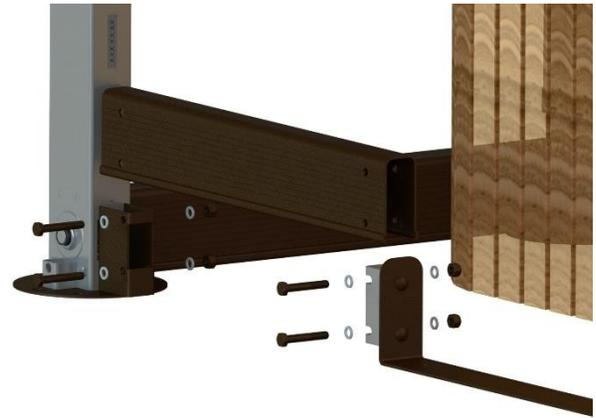

Figure 51
15) Fasten a short U-frame to each end of the front frame cut-out and then install the entire assembly between the front posts. Use four hexagonal 5/16"-18 x 2" bolts, four 5/16"-18 nylon-insert lock nuts and eight 5/16" plastic washers per side. Use 1/2" (13 mm) socket wrench and spanner. (Figure 51)